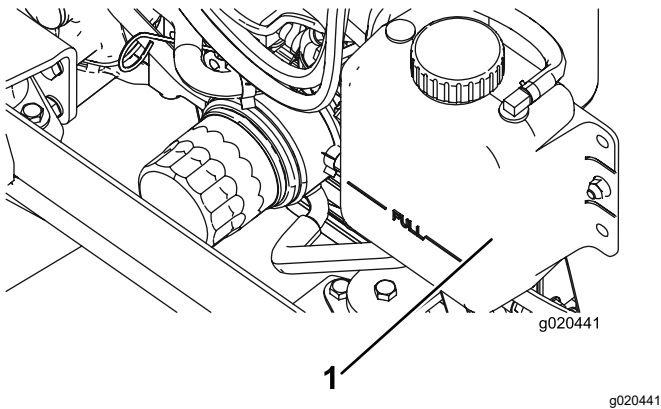

Figure 72
1. Carefully remove the radiator cap and expansion-tank cap (Figure 72).